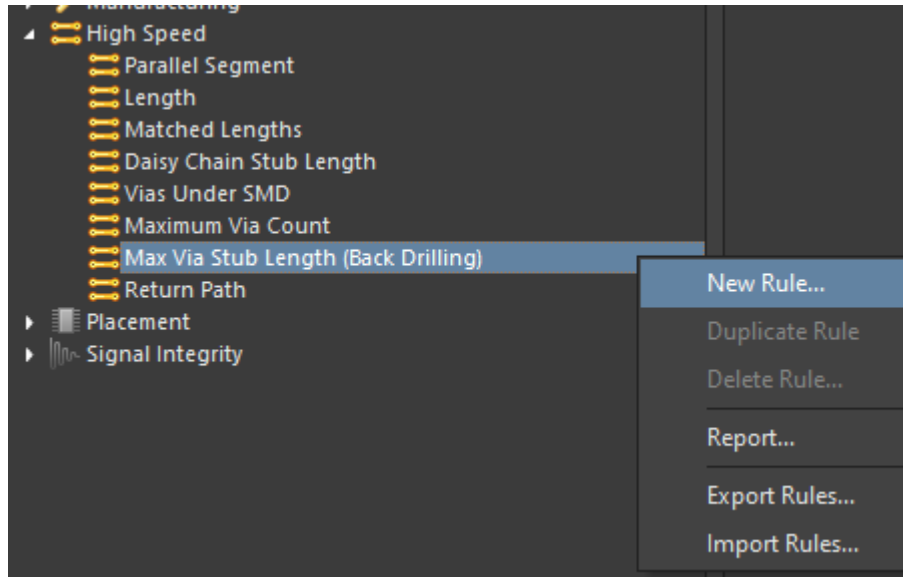

Figure 6. Adding New Max Via Stub Length rule
12. Under the *High-Speed* category click on the *Max Via Stub Length (Back Drilling)* Rule, right click on it and select **New Rule**, Figure 6.